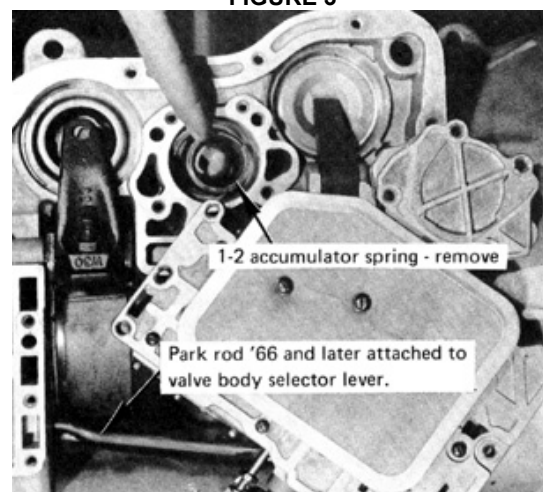

FIGURE 4
STEP 3. Now remove the valve body by removing the 10 bolts with a 7/16" wrench or socket. There is a spring between the valve body and the case so remove the last bolt slowly. This will also reduce the amount of oil splatter as the valve body is removed. *For '62-'65 units:* Pull valve body straight down, disconnect cable adapter from valve body. *For '66 and later:* Pull valve the body down and forward to disengage park rod from back of case. It may be necessary to rotate driveshaft slightly to remove rod. There will be a spring (1-2 accumulator spring) between the valve body and case (see Fig. 4), remove it also. Place valve body and spring in oil pan and set them on work bench. Discard 1-2 accumulator spring.